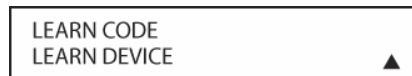

Figure 138
- Press the **Set Button [triangle 15]**. The message in the LCD display will change to the LEARN CODE menu (**Figure 138**). The bottom line will default to the LEARN DEVICE option.